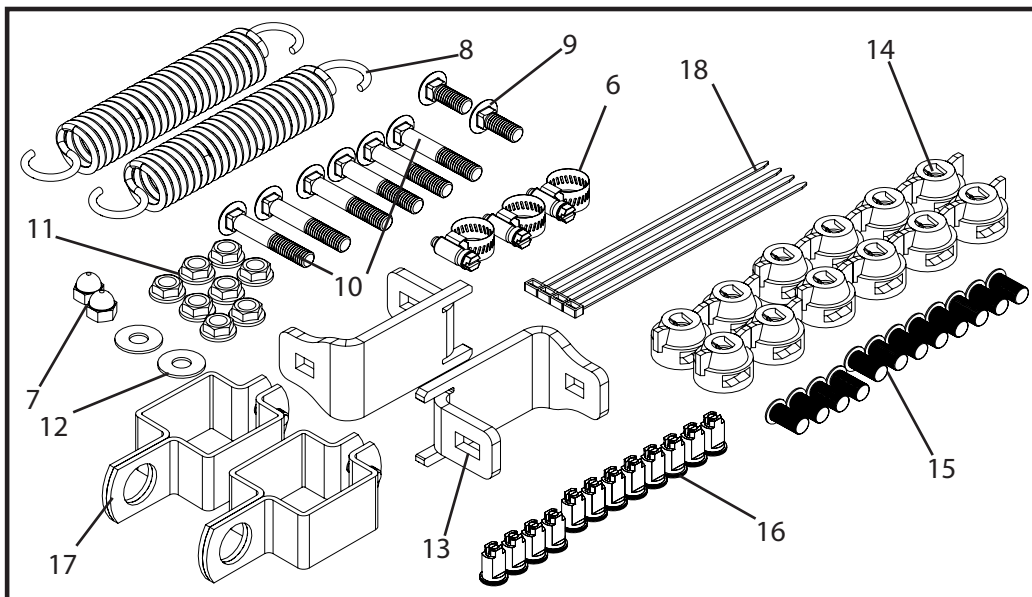
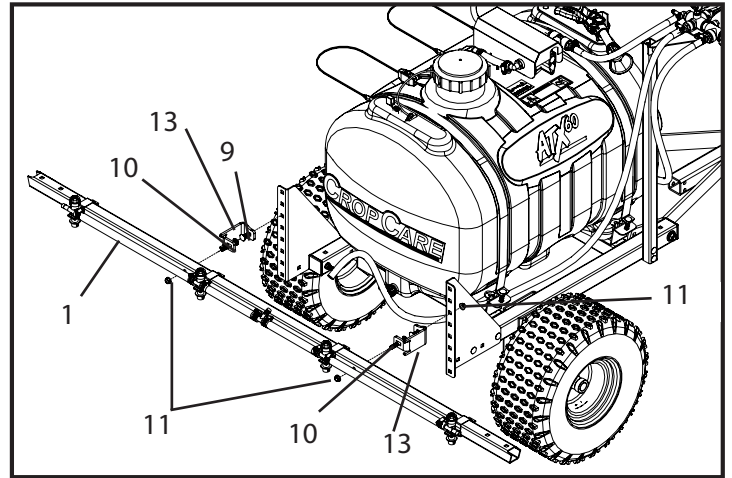
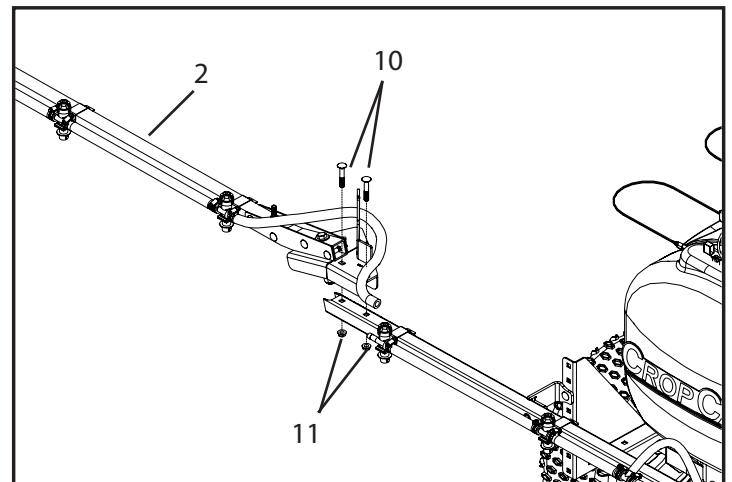
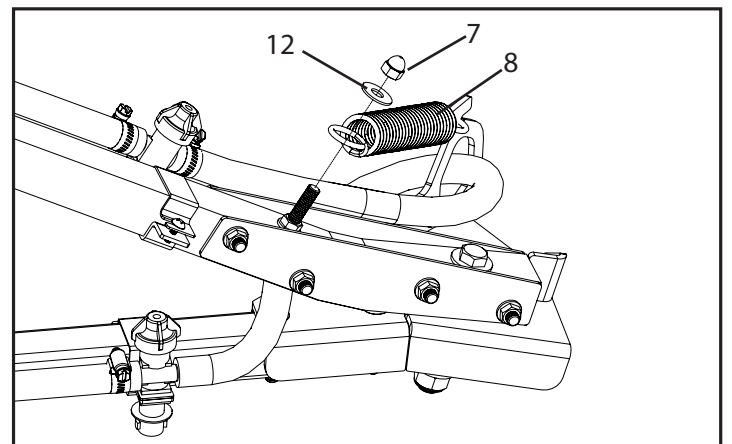

Figure 1: Boom hardware and nozzle kit
Figure 3: Center frame mounting
Figure 4: Boom wing mounting
Figure 5: Extension spring mounting
HDKMX240 Hardware & Nozzle Kit Contents (Figure 1)
1. Bolt the boom mount brackets (13) (Figure 1 & 3, pg 5 & 6) to the center frame (1) (Figure 3) using two long carriage bolts (10) (Figure 1 & 3, pg 5 & 6) and two flange nuts (11) (Figure 1 & 3, pg 5 & 6). Note: The boom mount bracket bent flanges (13) need to be pointed in toward the center of the boom so that the steel fingers on the brackets slide around the center frame tube as shown in figure 3.
2. Take the center frame with bolted on boom mount brackets from step 1 and bolt onto sprayer frame at the desired height shown in figure 3. Use two carriage bolts (9) (Figure 1 & 3, pg 5 & 6) and two flange nuts (11) (figure 1 & 3, pg 5 & 6).
3. Position the left wing (2) (Figure 4) onto the center frame as shown in figure 4. Take two long carriage bolts (10) (Figure 1 & 4, pg 5 & 6) and insert them through the hinge plate holes and center frame holes. Bolt two flange nuts (11) (Figure 1 & 4, pg 5 & 6) onto previously inserted carriage bolts.
4. Bolt flat washer (12) and acorn nut (7) (Figure 1 & 5, pg 5 & 6) onto the vertical wing bolt as shown in figure 5.
6. Attach the extension spring (8) (Figure 1 & 5, pg 5 & 6) to the mounting bracket on the hinge and to the vertical wing bolt as shown in figure 5 using the washer (12) and acorn nut (7).